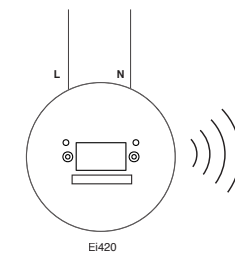

Figure 5 - The Ei420 used as a stand alone RadioLINK Repeater
4. Connect the house wires to the terminal block as follows: L-Live to wires coloured brown or marked L, N-Neutral to wires coloured blue or marked N IC- Hardwire Interconnect to an Ei Electronics mains powered alarm as shown in Figure 4(a) and Figure 4(b). Note: when the Ei420 is being used as a stand alone repeater, do not connect anything to the Interconnect terminal (see Figure 5.)